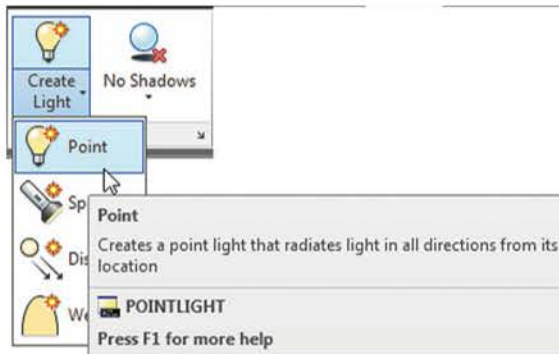
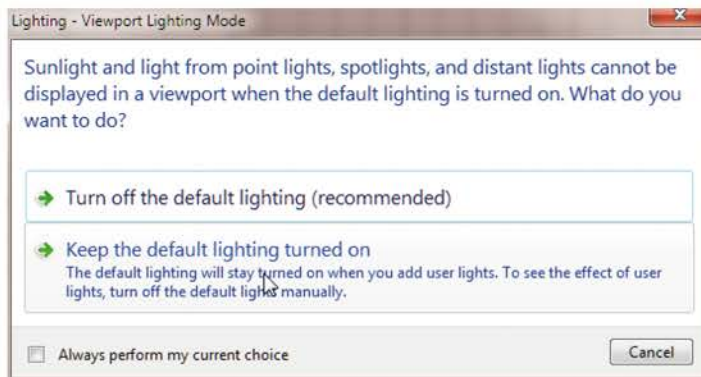
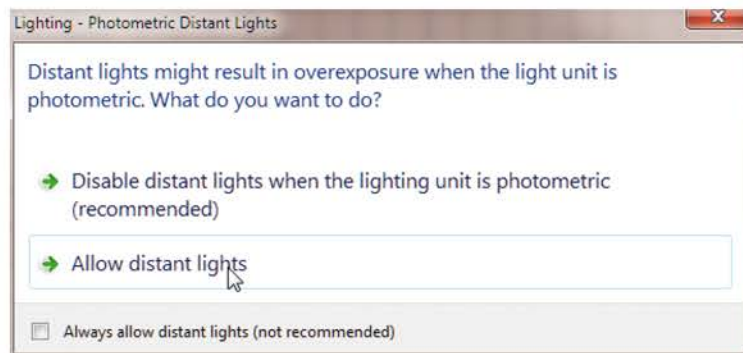

Fig. 16.22 The Point Light icon in the Render/Lights panel
Fig. 16.23 The Lighting – Viewport Lighting Mode warning window
Fig. 16.24 The Lighting Photometric Distant Lights dialog
3. *Click* the **Point Light** tool icon in the **Render/Lights** panel (Fig. 16.22). The warning window Fig. 16.23 appears. *Click* **Turn off Default Lighting** in the window.
No matter which method is adopted, the **Lighting – Viewport Lighting Mode** dialog (Fig. 16.23) appears. *Click* Turn off default lighting (recommended). The **Lighting – Photometric Distant Lights** dialog appears (Fig. 16.24). *Click* Allow distant lights in this dialog and the command line shows: